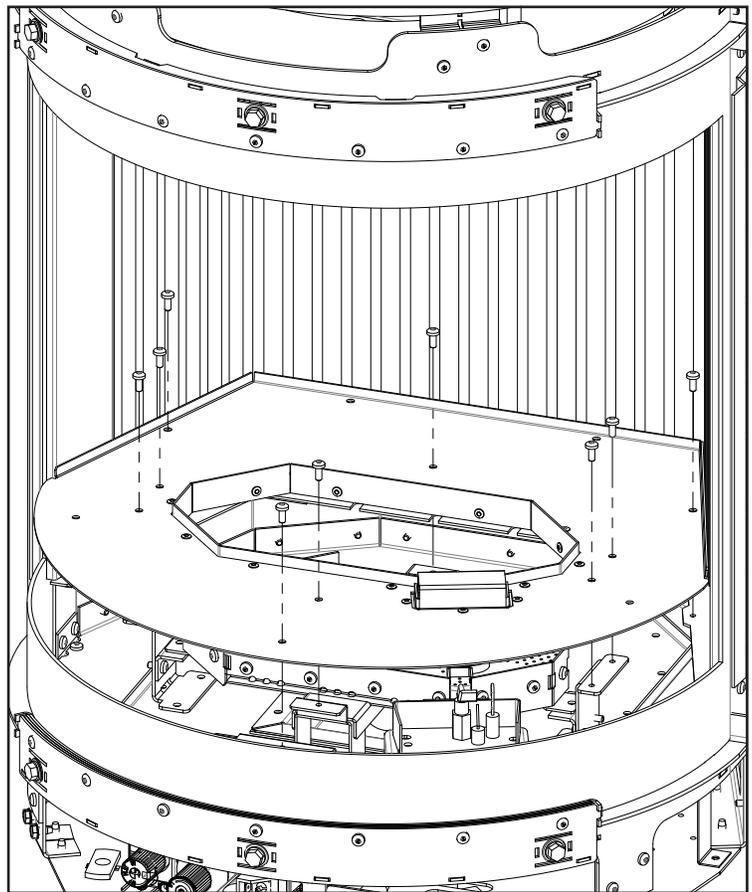

Figure 33: Burner Platform Removal
To remove the burner, first remove the door frame and glass (refer to page 15 and page 16 for details). Remove the nine (9) screws securing the burner platform using a T20 screwdriver (see Figure 33).